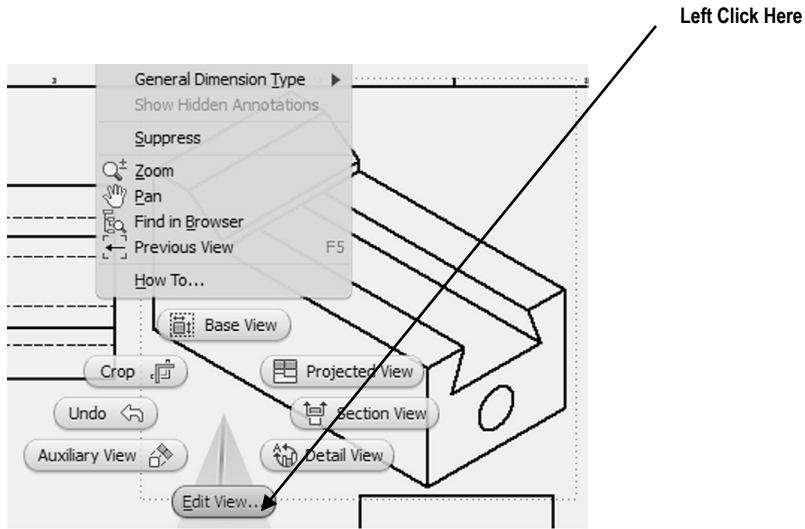

Figure 25
30. After the red dots appear, right click once. A pop up menu will appear. Left click on **Edit View** as shown in Figure 25.